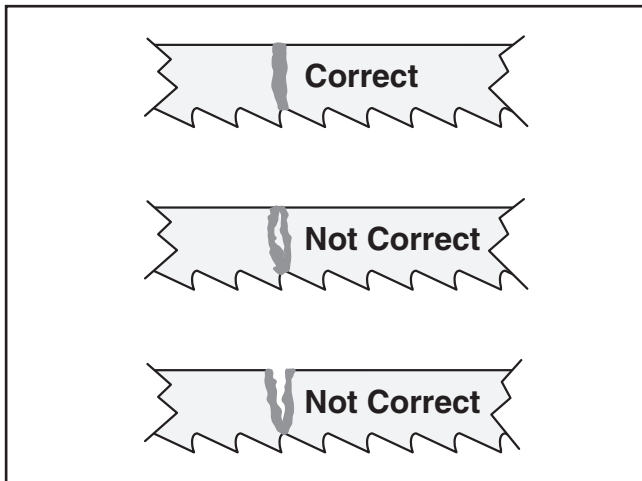

Figure 32. Blade welded joint examples.
11. Inspect the weld. The welded joint should be even across the width of the blade with no gaps (see **Figure 32**).